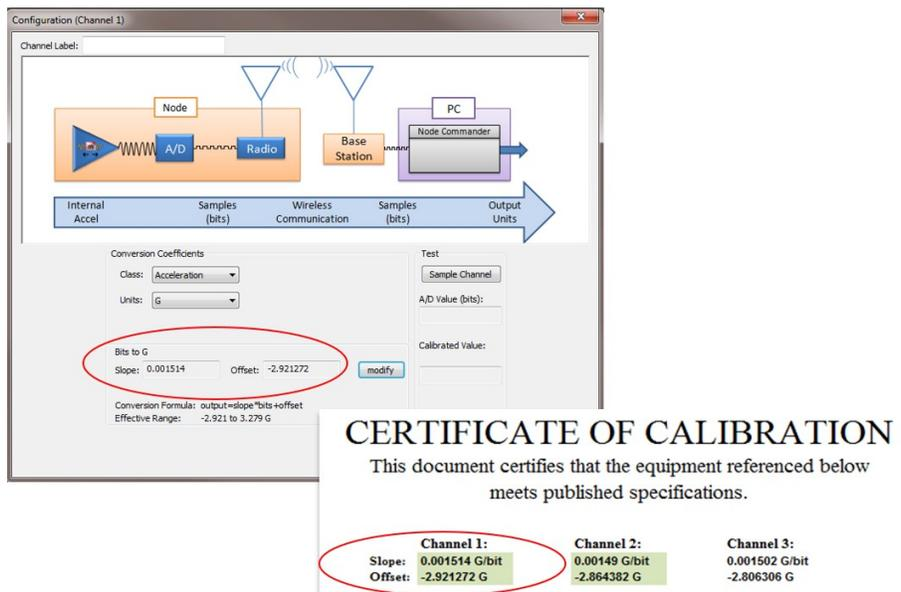

Figure 1 - Node Calibration Values
1. **Find the factory calibration values:** The node calibration certificate is provided with the node when it is purchased. It includes the calibration values for *slope* and *offset* for each channel. Locate the calibration values on the certificate. Alternatively these values can be retrieved from the node memory by looking at the channel configuration in Node Commander® (*Figure 1 - Node Calibration Values*).